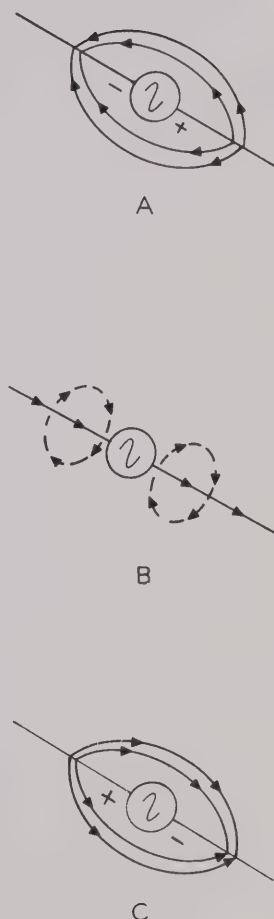

Figure 6
To radiate radio waves efficiently we must use a properly designed antenna. Figure 6 shows the operation of a common type of antenna known as a **DIPOLE**. The antenna is made up of a length of wire cut in half and connected to the terminals of an r-f generator which represents the output of a transmitter. The length of the dipole and the frequency of the generator are selected so that the length of each half of the wire is one-quarter of the wavelength ($\lambda/4$) of the generator frequency. The total length of the antenna is one-half wavelength, and the antenna is called a half-wave dipole.
Figure 6 is only correct for static conditions, since it indicates that the electric and magnetic fields completely disappear during each alternation. Actually, the charges and currents are both changing at the frequency of the generator. If the generator had a very low frequency, Figure 6A through 6D would still apply fairly well. The electric lines of force would slowly build up while the ends of the antenna were being charged, would slowly collapse back into the antenna while the charges were being neutralized, and then would slowly build up again in the opposite direction while the antenna was being charged to the opposite polarity. Similarly, the magnetic flux lines would slowly build up while the current was increasing, would slowly collapse back into the antenna while the current was decreasing to zero, and then would slowly build up again in the opposite direction as the current increased in the opposite direction.
26. Why is Figure 6 incorrect for radio frequencies?